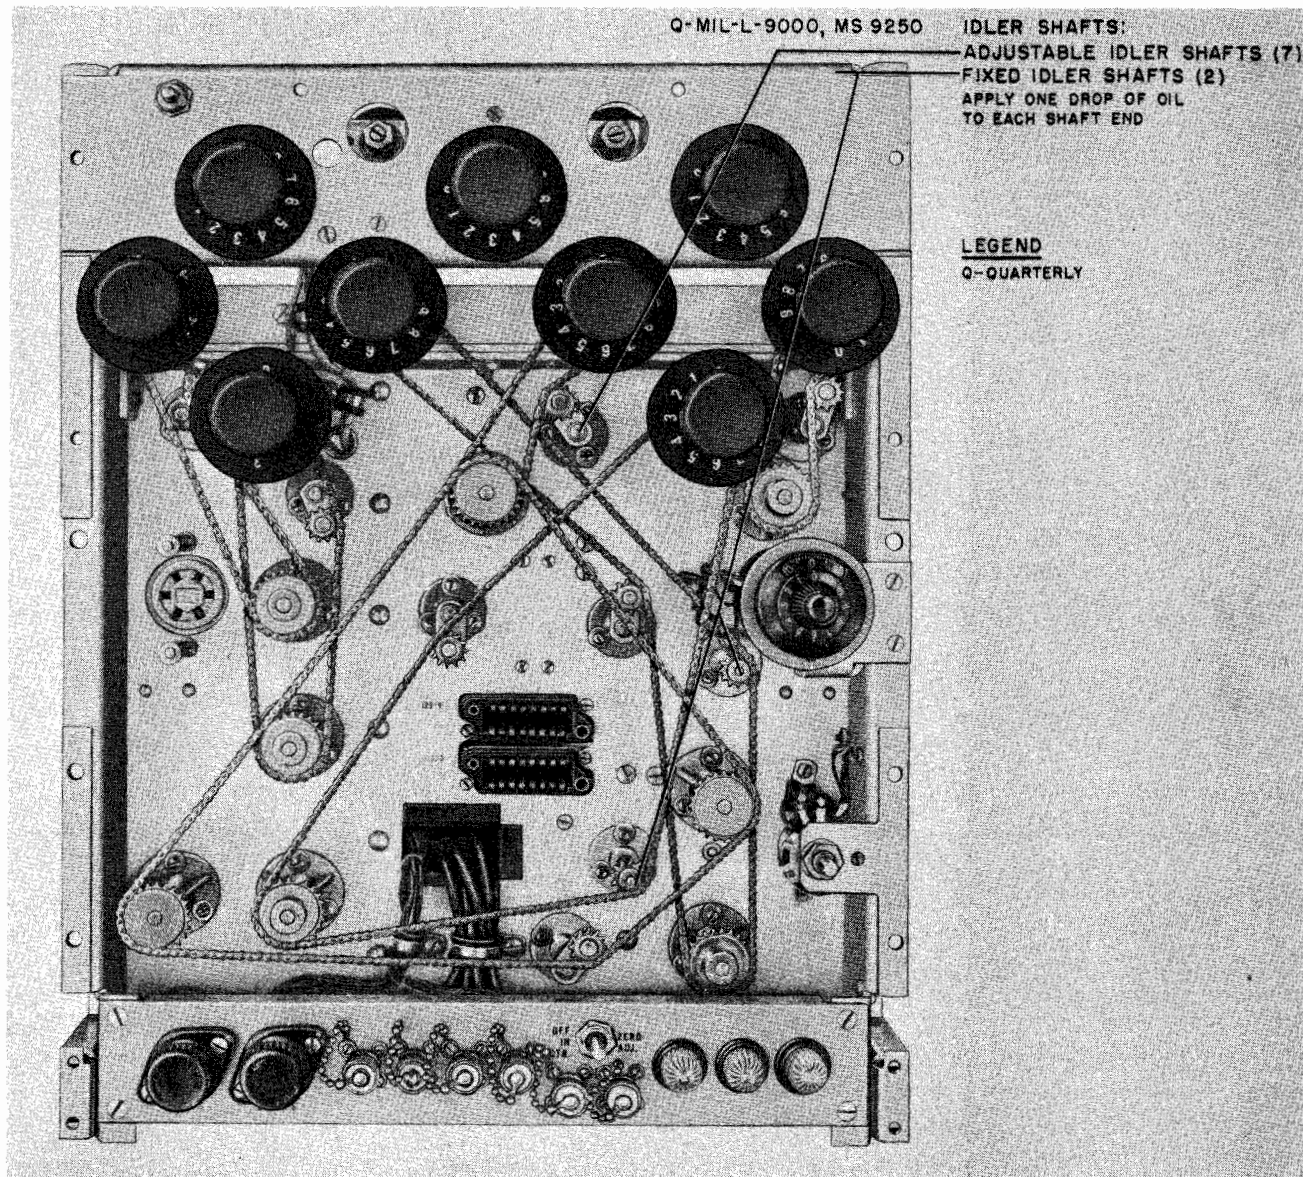

Figure 6-21. RFO, Control Panel Removed, Idler Gear Lubrication
(d) CONTROL PANEL REMOVED. — The chains and gears are shown in figure 6-21, a view of the RFO with its front panel removed. Lubrication of the fixed and adjustable idler gears is included in this illustration.
- (g) Figure 6-21